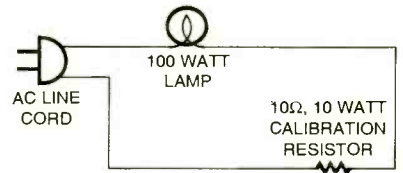

Fig. 7. To calibrate the circuit, place a 10-ohm, 10-watt resistor in series with a 100-watt lamp and connect the assembly to an AC line cord with plug.
Figures 7 and 8 illustrate two typical blower motor wiring diagrams,
using TR1 as the off/on switch. In the single-speed motor circuit shown in Fig. 7, wires to the existing plenum thermostatic switch are disconnected and then wired to the MT1 and MT2 terminals of TR1. Since the control circuit is optically isolated, the polarity of the wires is inconsequential.
When the wiring is completed, check it thoroughly to be sure it is 100% correct as shown in Fig. 7 or 8.
**Calibration.** In order to be useful, a standard must be set for the AC Amp Meter. In order to do that, we'll need to feed a known current through the unit. That is accomplished by first measuring the resistance of a power resistor rated for 10 ohms, 10 watts using a DVM and recording its measured value. Then wire the resistor in series with a 100-watt lamp and connect a line cord to that assembly as shown in Fig. 7. Plug the line cord into the AC Amp Meter, turn on the power, and measure the voltage drop across the resistor. Then using the measured value of the resistor and the measured voltage drop, calculate the current (which should be less than 1 amp or about 800 milliamps) flowing to the lamp using Ohm's law. Turn the AC Amp Meter off and set its range switch to the  $\times 1$  scale. Then turn the AC Amp Meter on and adjust R3 until the meter gives a reading equal to the calculated current level.